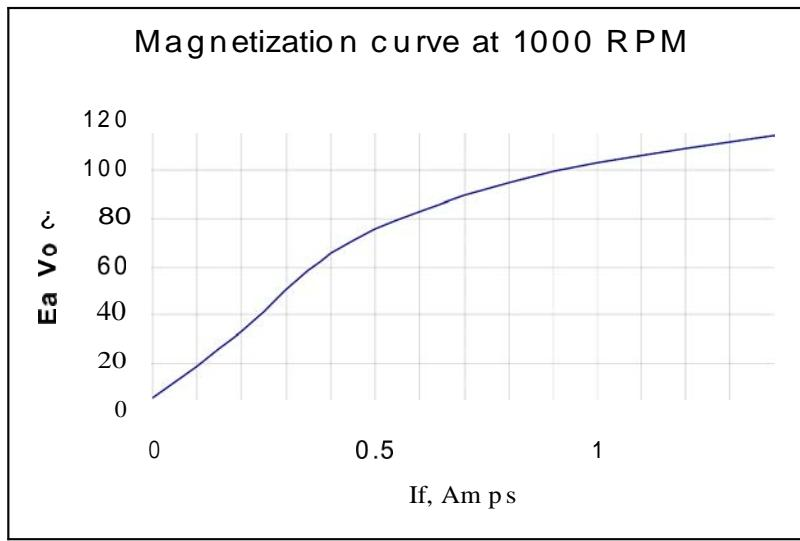

FIGURE 11.7
1. A 12 kW, 100 V, 1000 RPM dc shunt motor has armature resistance  $R_A$  0.1 CI, shunt field winding resistance  $R_{shunt}$  '80 t2, and  $N_f=1200$  turns per pole. The rated field current is 1 ampere. The magnetization characteristic" at 1000rpm is shown in Figure 11.7. The machine is operated as a shunt dc motor. Calculate the rotor speed when the shunt resistance is increased to 100 D at rated voltage and nominal load. The brushes drop is 6V.